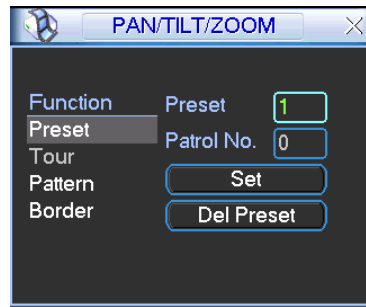
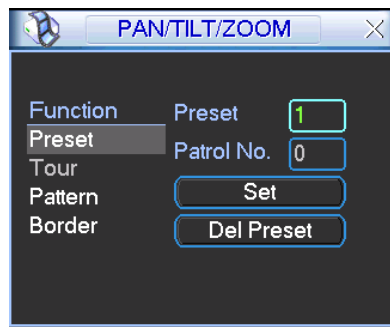

Figure 4-36
Figure 4-38
In Figure 4-33, please click the “set” button. The interface is shown as below. See Figure 4-36. Here you can set the following items:
- The following setups are usually operated in the Figure 4-33, Figure 4-36 and Figure 4-37.
In Figure 4-36, click preset button and input preset number. The interface is shown as in Figure 4-38
In Figure 4-36, please click patrol button. The interface is shown as in Figure 4-39. Input preset number and add this preset to a patrol (tour). For each patrol (tour), you can input max 80 presets.
In Figure 4-38 click pattern button and then click “begin” button. The interface is shown as in Figure 4-40. Then you can go to Figure 4-33 to modify zoom, focus, and iris.
In Figure 4-36, click border button. The interface is shown as in Figure 4-41. Please go to Figure 4-33, use direction arrows to select camera left limit